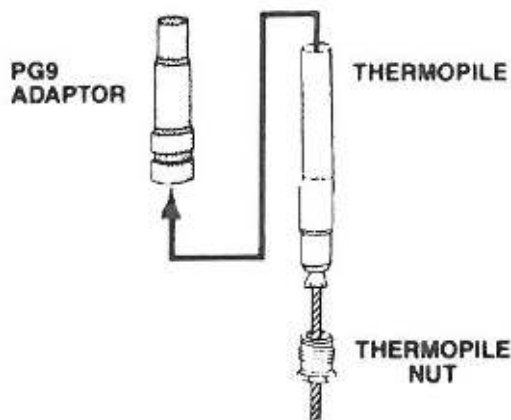

FIGURE 1
2. Using the adaptor supplied, (with selected models), assemble the thermopile and adaptor by screwing the thermopile nut into the adaptor. See figure 1.